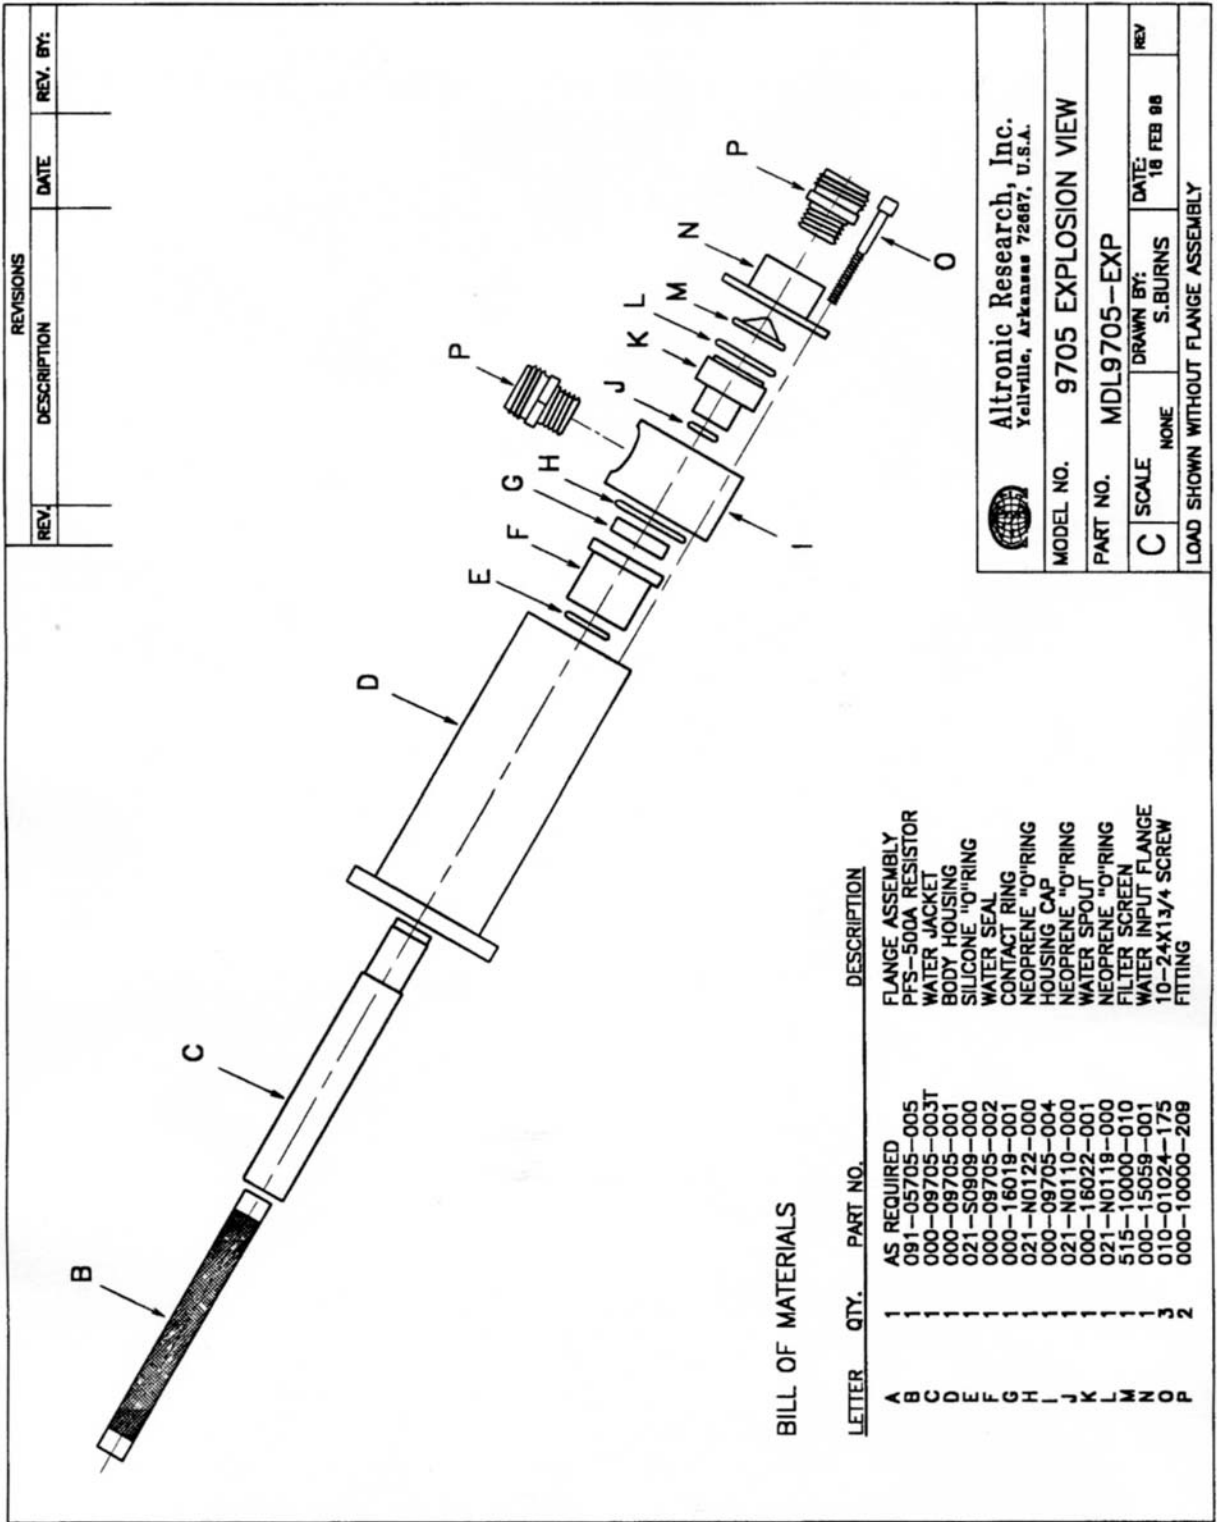
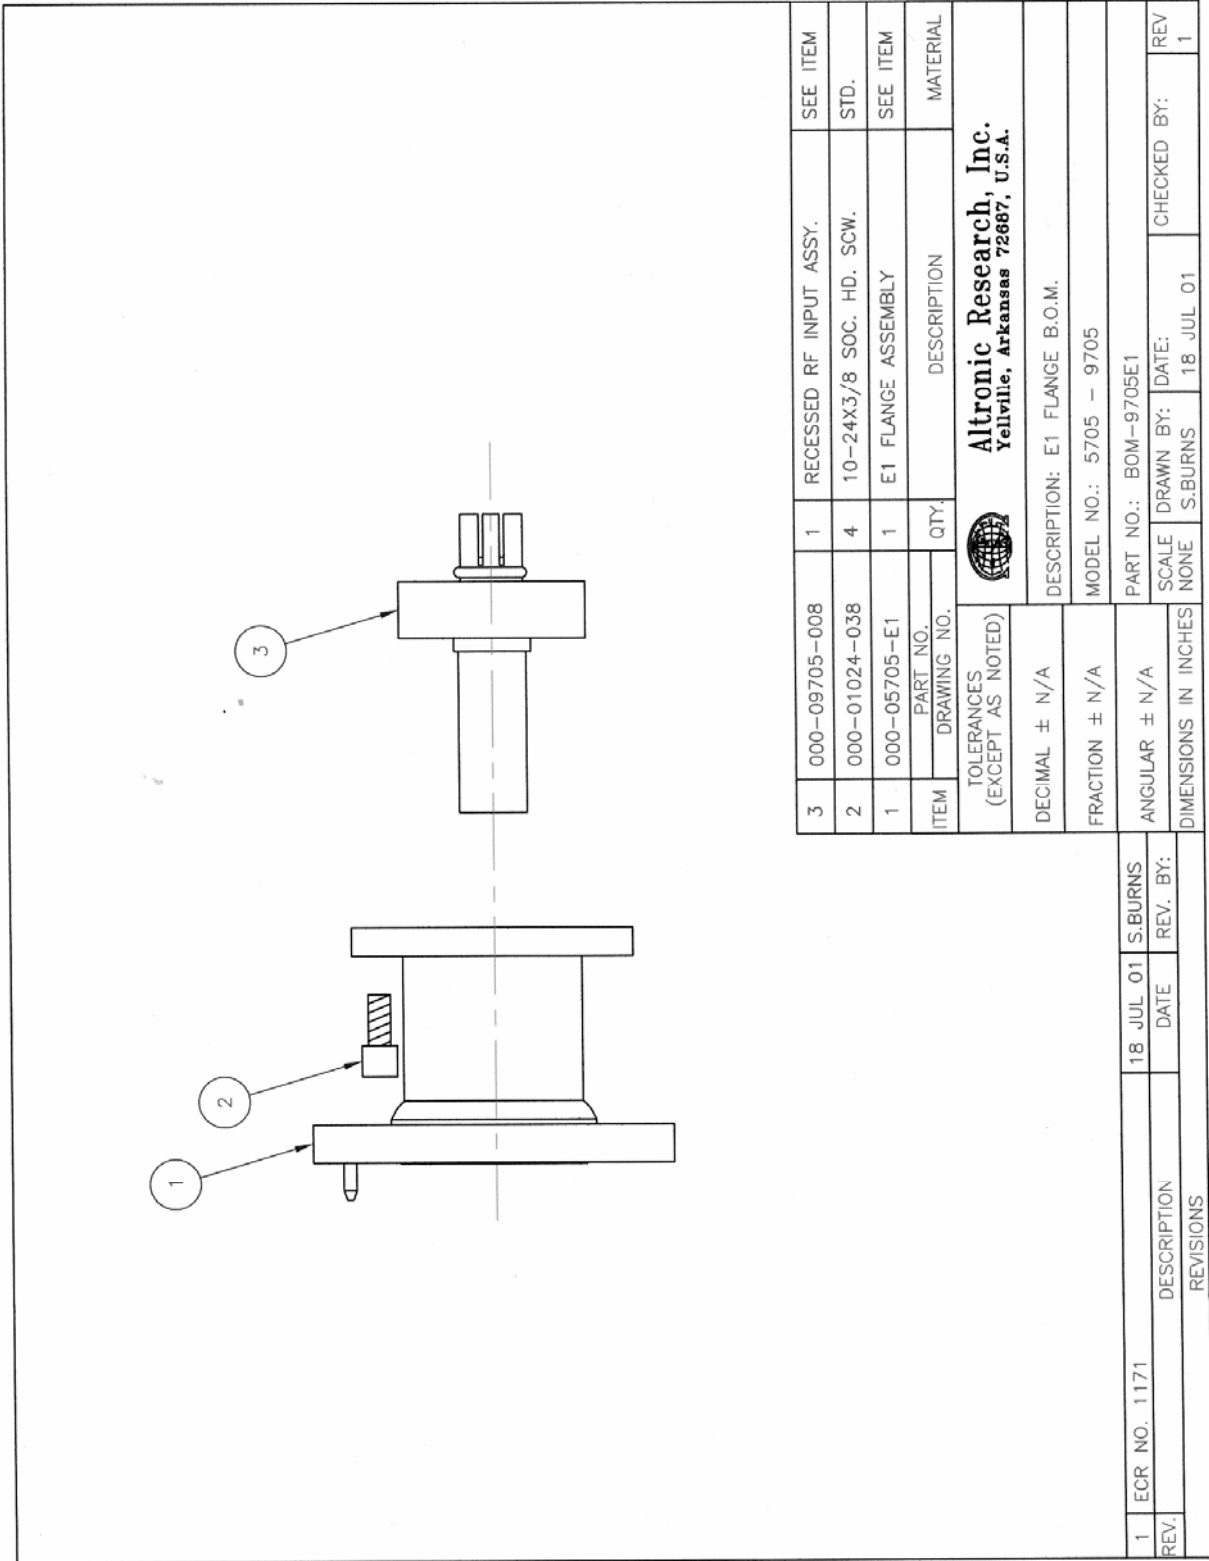
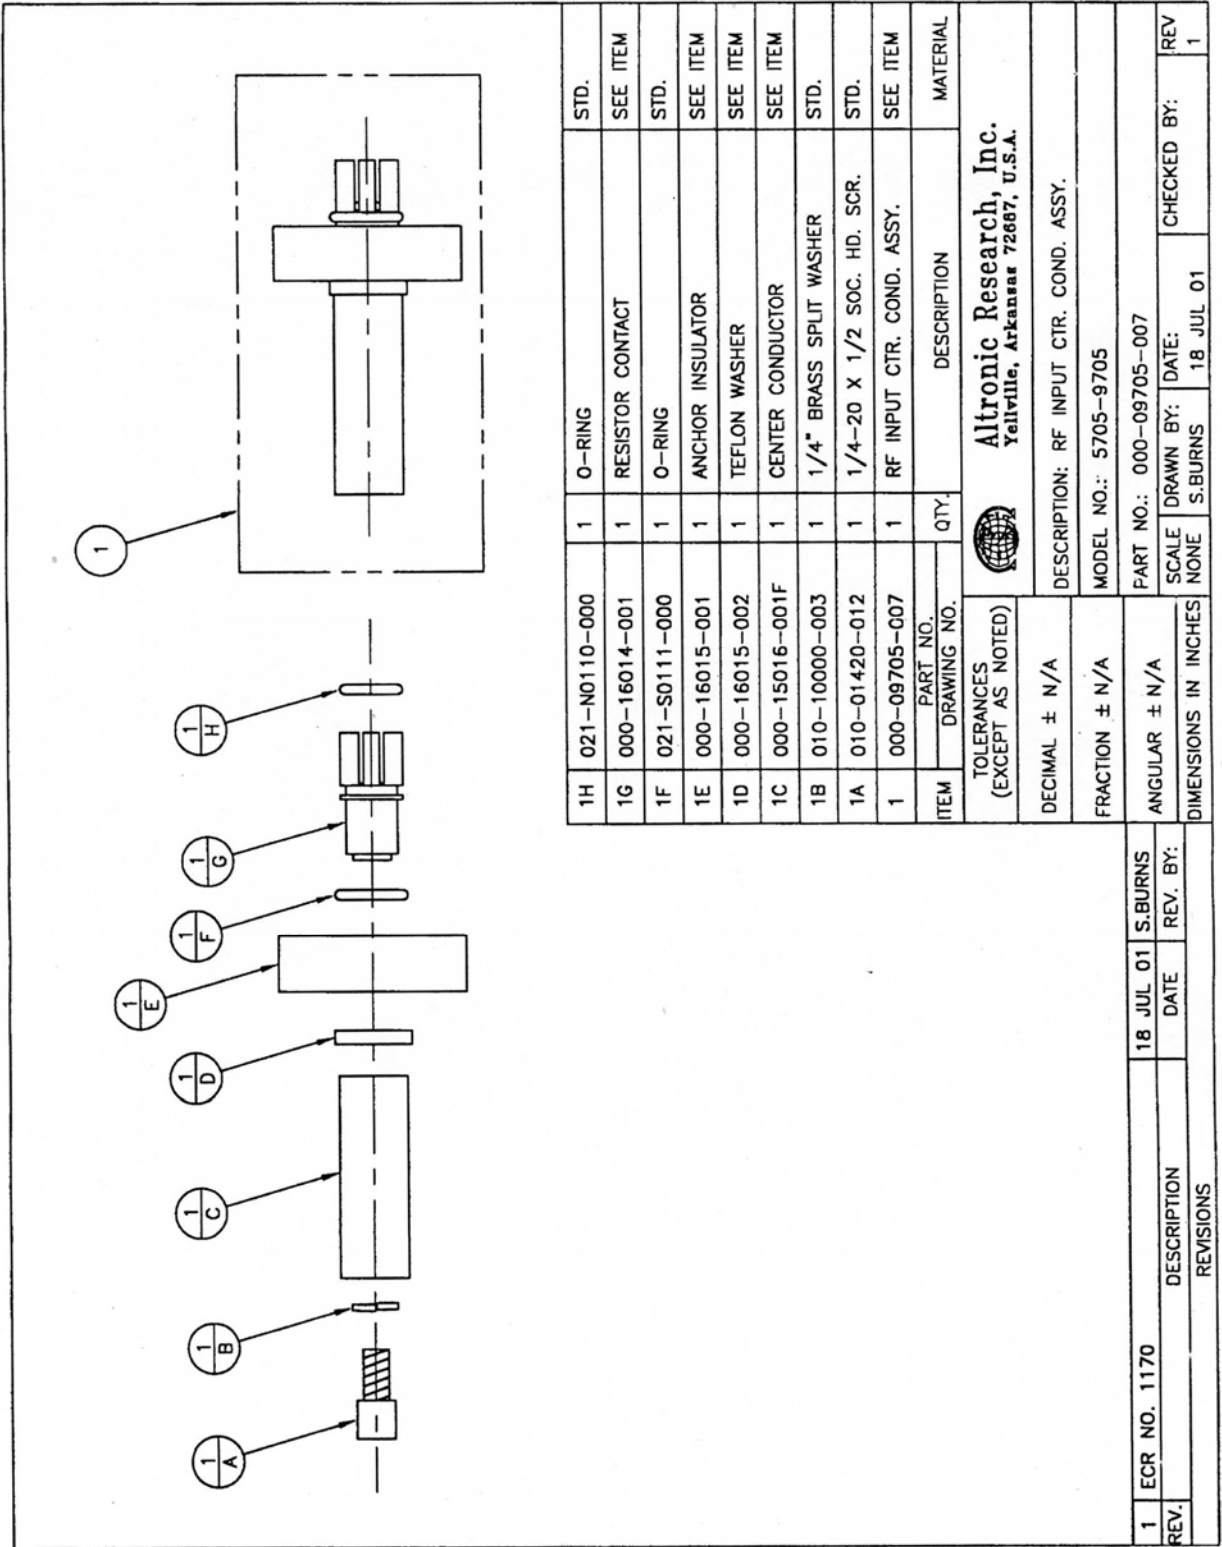

Fig. 14
Fig. 15
Fig. 16
4. **Resistor Replacement** - (Refer to Fig. 14) To replace the resistor element, remove the three 10-24x1-3/4" cap screws (item O). Remove water input assembly (items M, N, and P). Inspect filter screen for damage, replace if eroded or torn. Remove housing cap assembly (items G, H, I, P, J, K and L). Inspect all O-rings for distortion or damage. Replace if pinched, cut, burned or no longer round in cross section. Inspect ring contact (item G) for signs of arcing or loss of silver in the area of contact with the resistor contact band. Replace if damage is noted. If resistor (item B) is not broken, grasp by the end
- 5. Removal of RF Input** - (Refer to Figure 15) To remove the RF input line adaptor flange, remove four 10-24x 3/8" socket head screws (item 2) that secure the line adaptor flange (item 1) to the load body housing (item 3, Fig. 14). The RF input assembly consisting of the center conductor, anchor insulator and front resistor contact (items C, D, E, F, G, H, I and J) will normally remain in the load body. Grasp the center conductor (item 3) by hand and attempt to pull the input assembly out of the load body using slight side to side motion while pulling. If strong resistance is encountered, it may be necessary to chill the load to allow the anchor insulator to shrink away from the load housing. This can be done by placing the load in a freezer, or packing the load in ice for 20 to 30 minutes. Once the anchor insulator has shrunk away from the load housing, the RF input assembly should be easily removed. At this point of disassembly, all components of the load can be inspected or replaced as needed. Reassembly should be done in the reverse order of sequence. See Figure 16 for individual component identification.